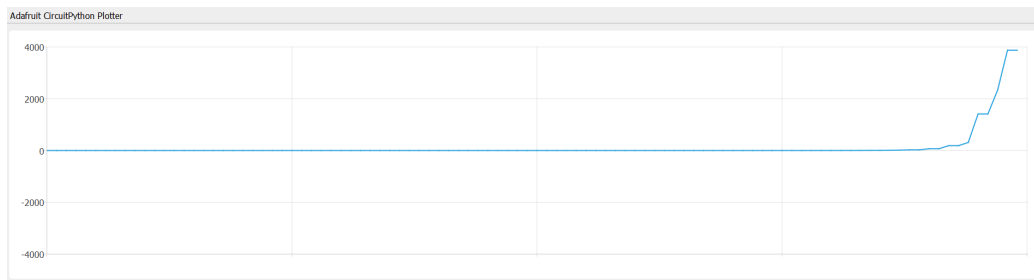

Figure 4: Example plot from exponential growth program (blockiness is due to large dt)
5. Inspect the output to be sure it is as expected. An example is presented in Figure 4.